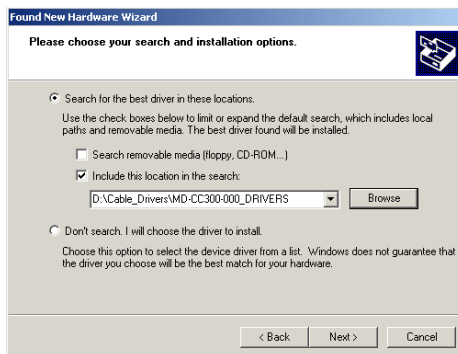

Figure C.7: Hardware Update Wizard Screen 3
- (c) Click Next (Figure C.7).